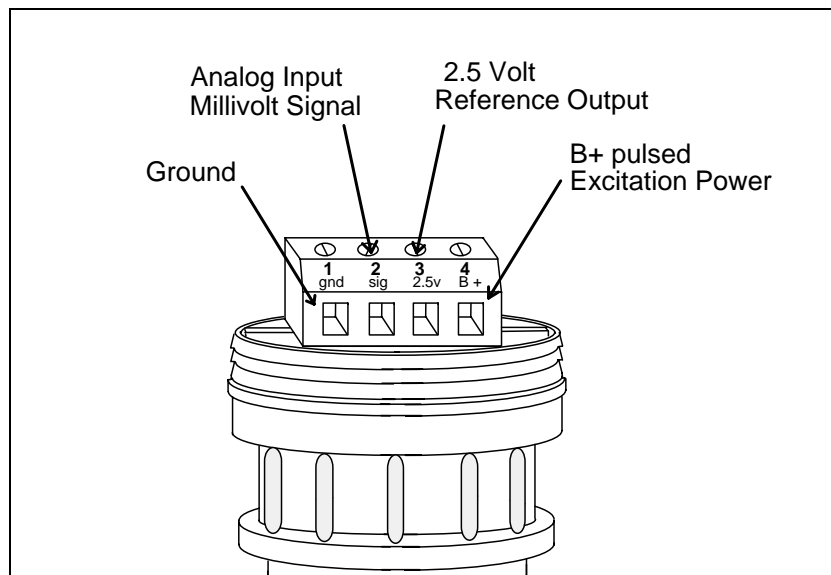

Fig. 1 IP-25MV Terminal assignment.
The four screw terminals are used to connect the sensor. If the sensor does not need excitation power only two of the terminals are used. The first screw terminal (1) is common ground. The second screw terminal (2) is an analog input that has a useful input range of 0 to 25 millivolts. It has a high input impedance to eliminate sensor loading. The next two screw terminals (3,4) offer excitation for the sensor. The third screw terminal (3) is a precision 2.500 volt excitation output. This output has minimal drive capability (5 milliamperes maximum). The power is pulsed on for a short duration then turned off. The length of the on-time power pulse can be set when programming the datalogger's header. The fourth screw terminal (4) is a B+ switched output. The voltage level of the B+ terminal depends on the battery system being used with the datalogger. The on-time is the same as that for the 2.500V precision excitation output. Fig. 1 shows the position of the screw terminals.